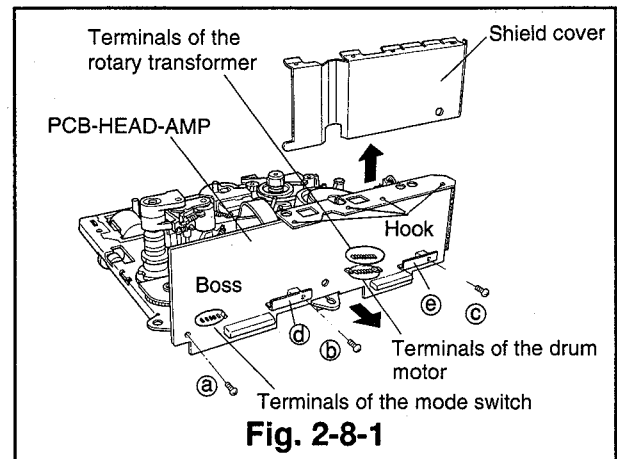
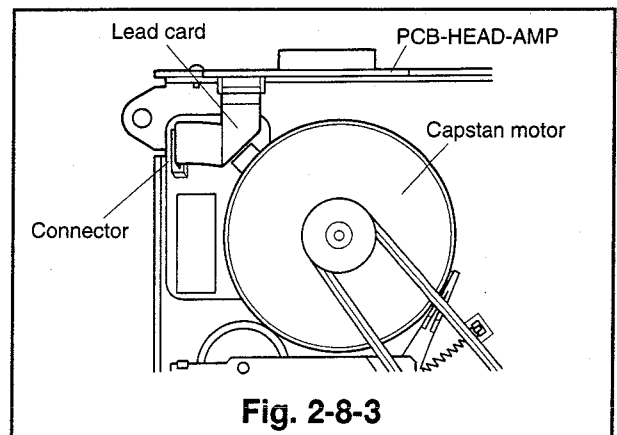

Fig. 2-8-1
Fig. 2-8-3
- ① Unfasten the hook and raise the head amp shield cover shown in Fig. 2-8-1 to remove it.
- ② Unsolder the terminals of the mode switch, the drum motor, and the rotary transformer shown in Fig. 2-8-1.
- ⑤ Reverse the deck and disconnect the lead card, connecting the PCB of the capstan motor and the PCB-HEAD-AMP. (Refer to Fig. 2-8-3.)
- ⑥ Remove the three screws (a, b and c) and slowly pull the PCB-HEAD-AMP in the direction shown by the arrows. (Refer to Fig. 2-8-1.)
- ① Insert the terminals of the mode switch, the drum motor, and the rotary transformer, and the boss, adjacent to the mode switch, in the matching holes on the PCB-HEAD-AMP and secure the PCB-HEAD-AMP with the three screws (a, b and c) in the order, b → c → a. (Refer to Fig. 2-8-1)
- ② Solder the pins mentioned in Item ①.
- ③ Reverse the deck and reconnect the lead card connecting the PCB of the capstan motor and the PCB-HEAD-AMP (Refer to Fig. 2-8-3.) Take care not to fit lead card upside down.